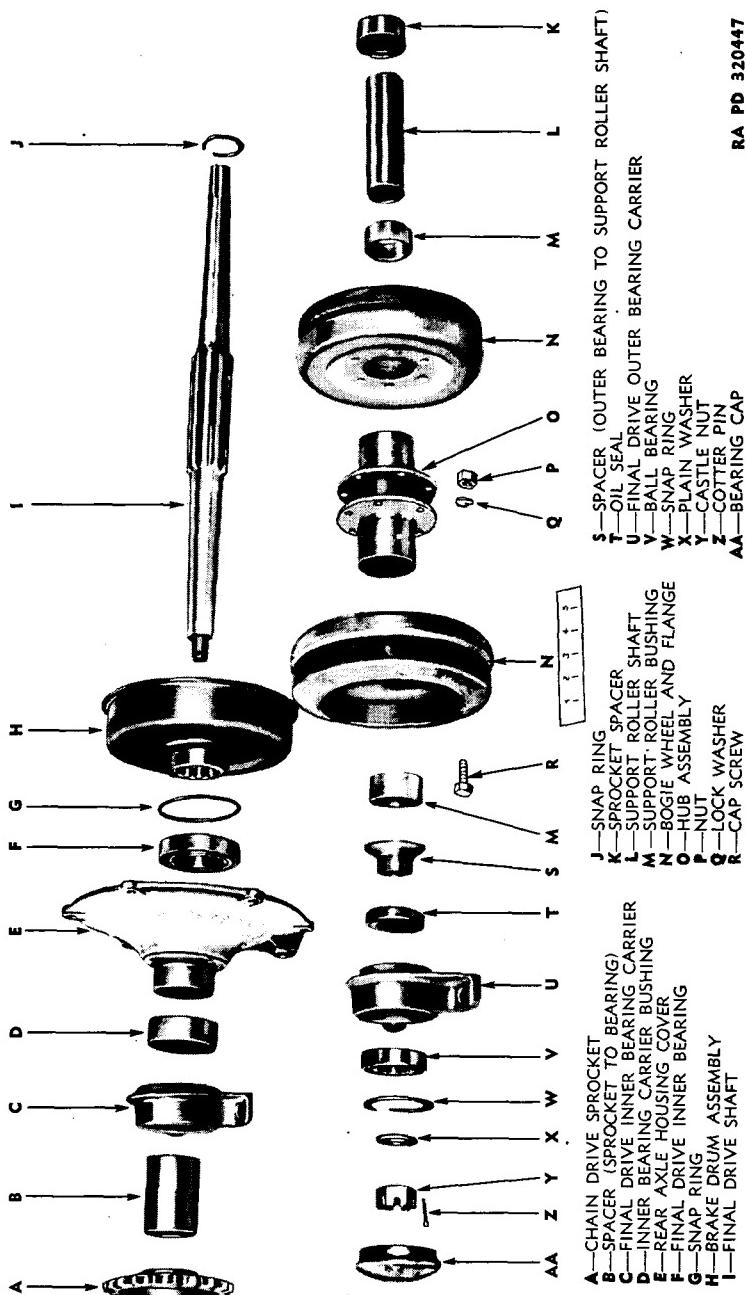

Figure 33.—Final Drive and Support Roller Assembly Disassembled
a. Assemble Brake Housing Cover and Outer Bearing Carrier. Refer to figure 33 for correct relation of parts while assembling. If lubricant was washed from brake housing cover bearing, which is a sealed bearing, the lubricant can be renewed by holding one end of a waterproof cloth tube around outer race of bearing and opposite end of tube around nozzle of pressure gun. Have one man slowly pump gun while another rotates inner race of bearing. Lubricant will appear at outer side of bearing when filled. Press bearing into brake housing cover. Install snap ring. Press bearing into outer bearing carrier. Install oil seal in outer bearing carrier with lip toward bearing.